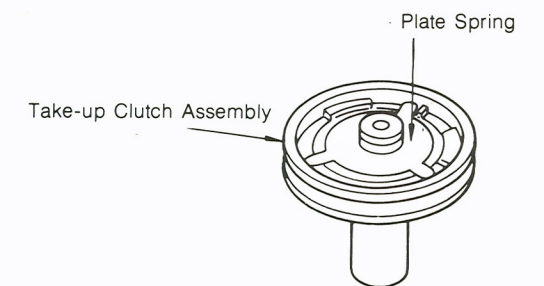

FIG. 20
- Change take-up clutch tension by turning the friction spring under reel table, as shown in Fig. 20, and/or